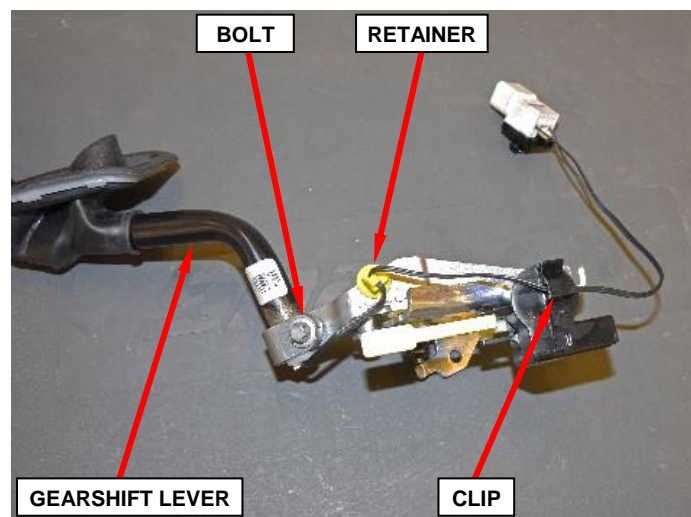

Figure 13 – Gearshift Lever
19. Remove the gearshift bracket / BTSI assembly with shift lever from the steering column then transfer to bench (Figure 13).
20. Remove the upshift/downshift electrical harness from the retaining clip (Figure 13).
21. Release the upshift/downshift electrical harness retainer from the gearshift bracket / BTSI assembly (Figure 13).
22. Remove and save the E10 star-head pinch bolt securing the shift lever to the gearshift bracket / BTSI assembly (Figure 13).
23. Remove and save the gearshift lever from the gearshift bracket / BTSI assembly (Figure 13).
27. Install the E10 star-head pinch bolt securing the shift lever to the gearshift bracket / BTSI assembly. Tighten the pinch bolt to 11 N·m (97 in. lbs.) (Figure 13). Ensure shift lever is properly seated and not loose after tightening.
28. Attach the upshift/downshift electrical harness retainer to the gearshift bracket / BTSI assembly (Figure 13).
29. Install the upshift/downshift electrical harness to the retaining clip (Figure 13).